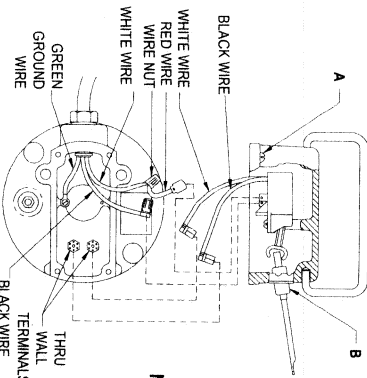

FIGURE 1
- (2) Remove four (4) screws at (A) (see Fig. 1) and remove cover and wires from switch. Check for burned, broken, or damaged wires and replace as needed. Note wire locations.